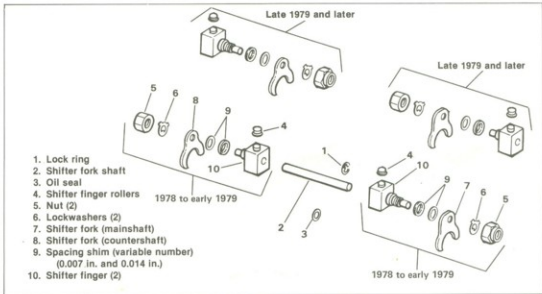

Figure 7-26. Shifter Fork — Exploded View
3. If clearances are not equal and correct, the fork assembly position must be changed by increasing or decreasing the number of spacers (9, Figure 7-26) in the assembly. Spacers are available in .007 and .014 in.
The disassembly and assembly procedures are the same for early and late style transmissions. However, on late 1979 and later transmissions, the shifter fork assemblies are reversed on the fork shaft, that is, the nuts are toward the center of the shaft, See Figure 7-26.
6. See Figure 7-26. Bend the tabs on the lockwashers away from the nuts (5). Remove the nuts (5), lockwashers (6), forks (7 and 8), spacer (s) (9) and shifter rollers (4) from the shifter fingers (10).
1. See Figure 7-26. Place the spacer(s) (9), shifter fork (7 and 8), lockwasher (6) and nut (5) on shifter finger. Tighten nut to 10-12 ft-lbs torque. Do not overtighten nut or shifter finger will bind on the shaft.
4. Install the shifter rollers (4, Figure 7-26).